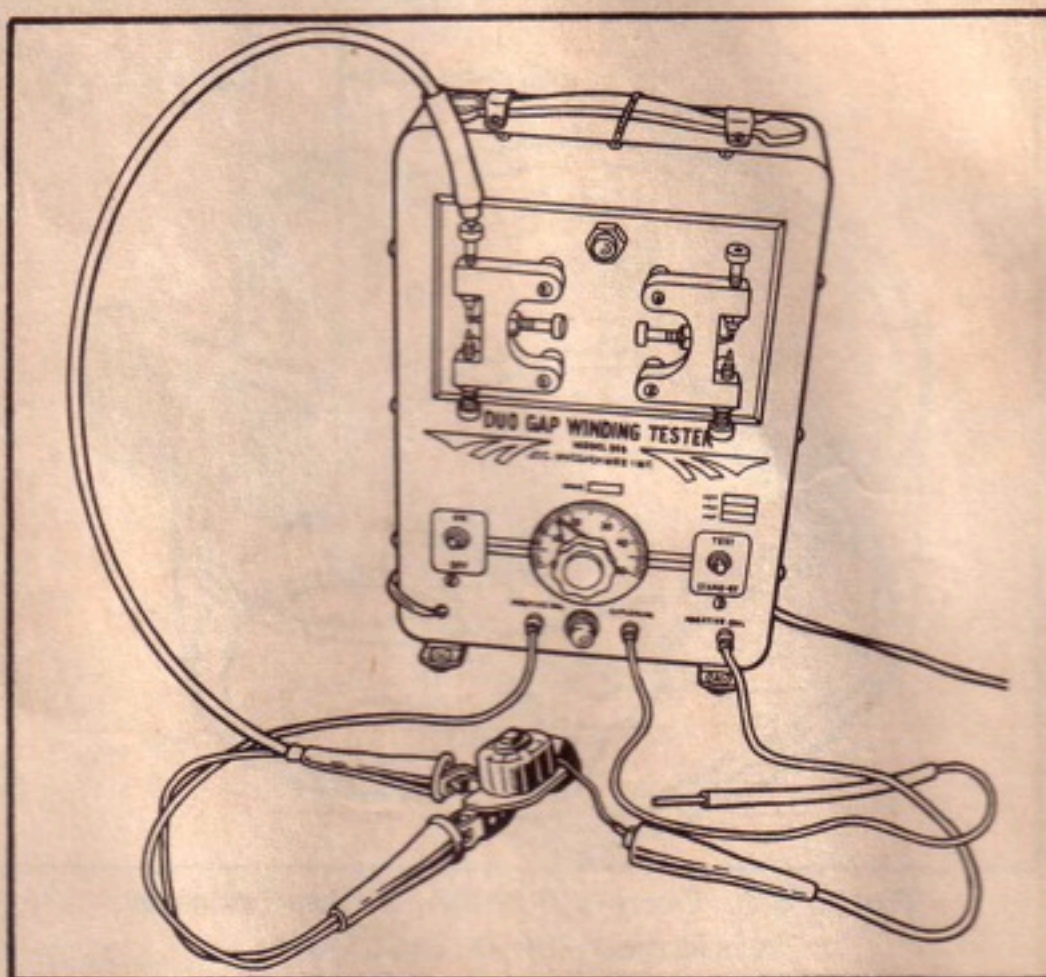

Figure B-10. Testing Magnet Coil
(8) To test the coil, connect the coil leads to an approved coil tester like the one shown in figure B-10, which is recommended by the manufacturer. When in good condition, the coil will produce a spark across the gap at the recommended dial setting. Refer to specification chart that is supplied by the manufacturer of the testing apparatus and use appropriate settings for desired tests. If the coil fails to produce a continuous spark at this setting, it is an indication that it is defective and must be replaced.